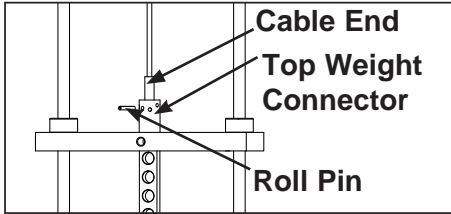

Figure 3
- H. Using a 3/16" pin punch and hammer, carefully remove roll pin securing cable end to top weight connector. See Figure 3.